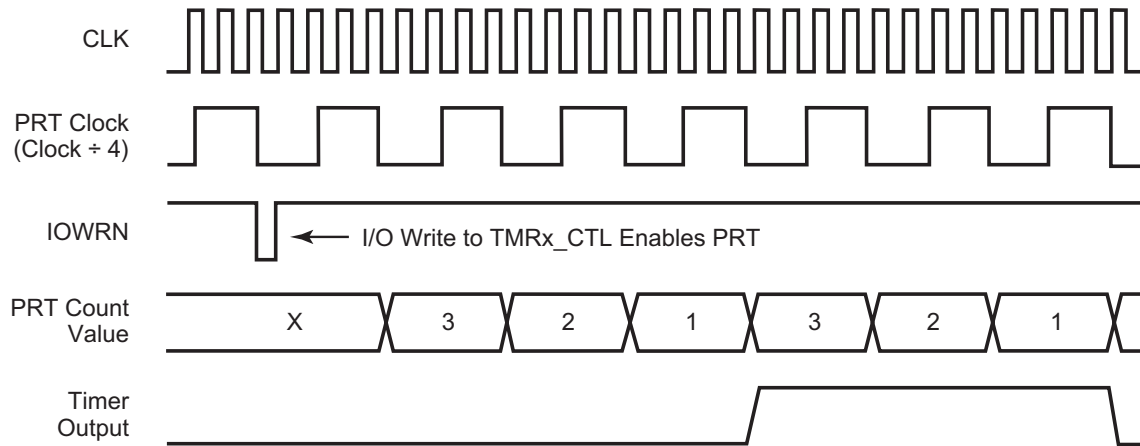

Figure 22.PRT Timer Output Operation Example
Two of the Programmable Reload Timers (Timers 4 and 5) can be directed to GPIO Port B output pins (PB4 and PB5, respectively). To enable the Timer Out feature, the GPIO port pin must be configured for alternate functions. After reset, the Timer Output feature is disabled by default. The GPIO output pin toggles each time the PRT reaches its end-of-count value. In CONTINUOUS mode operation, the disabling of the Timer Output feature results in a Timer Output signal period that is twice the PRT time-out period. Examples of the Timer Output operation are illustrated in Figure 22 and PRT Timer Out Operation Example. In these examples, the GPIO output is assumed to be Low (0) when the Timer Output function is enabled.